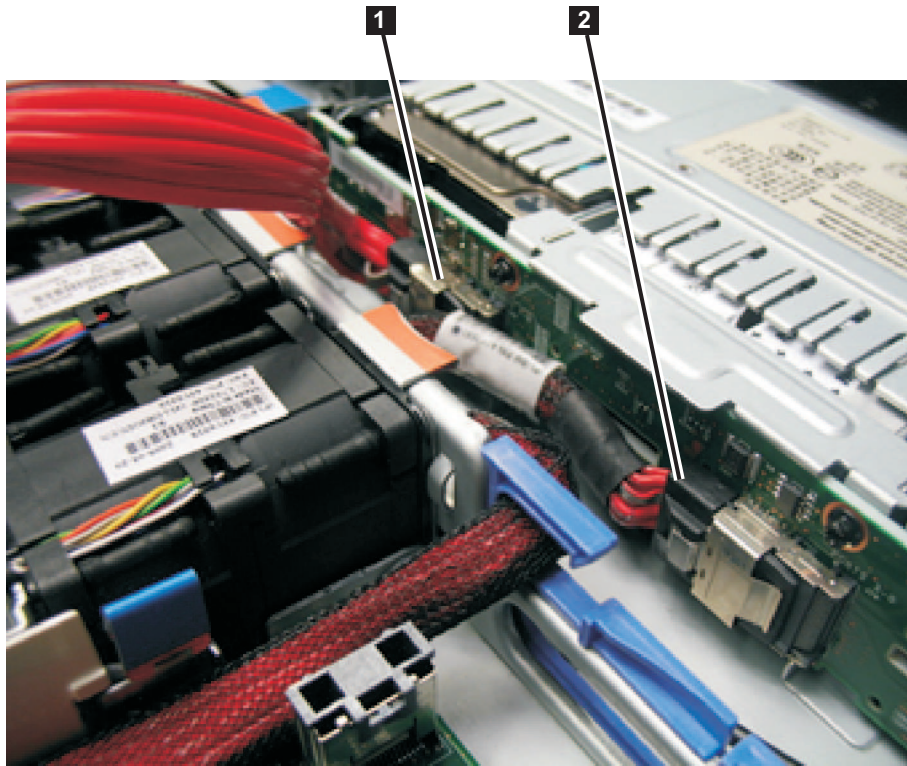

Figure 227. Boot-disk SAS cable and the high-speed SAS cable connected to the disk backplane in the SAN Volume Controller 2145-CG8 or 2145-CF8
11. Disconnect the high-speed SAS cable from the SAS connector in the center of the back of the disk backplane, as shown in Figure 227 on page 273.